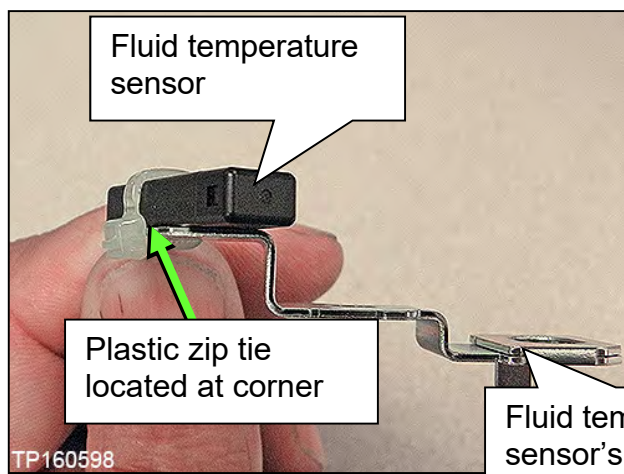
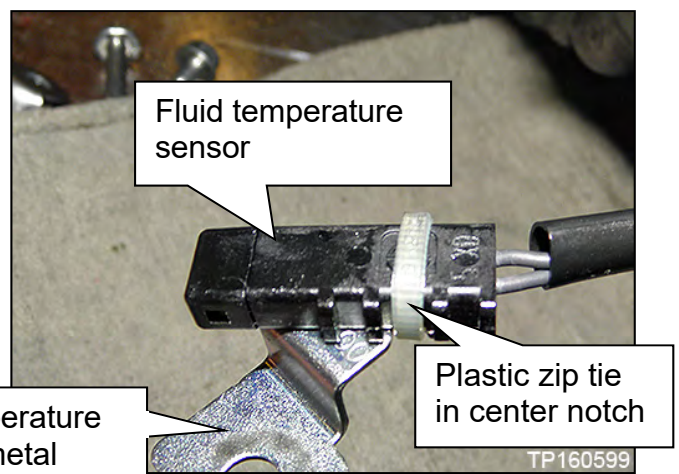

Figure 144
Figure 145
- a. Cut the old plastic zip tie with an appropriate tool to remove the fluid temperature sensor's metal bracket from the terminal harness assembly (Figure 144 and Figure 145).
- Locate the plastic zip tie at the center notch of three notches on the fluid temperature sensor (Figure 144).
- Tighten the plastic zip tie so that it is oriented as shown in Figure 145.